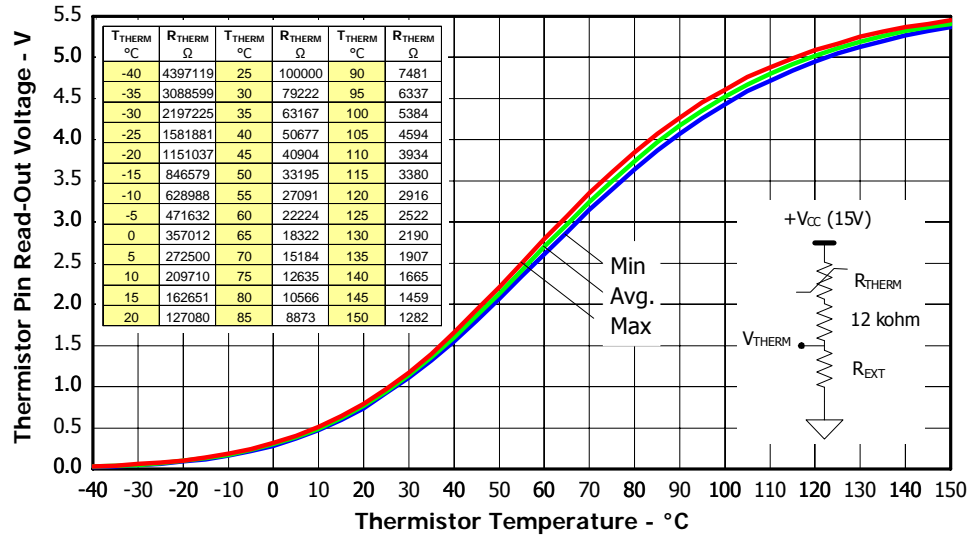

Figure 9. Thermistor Readout vs. Temperature (7.5kOhm pull-up resistor, 5V) and Nominal Thermistor Resistance values vs. Temperature Table.
3. Value of the boot-strap capacitors depends upon the switching frequency. Their selection should be made based on IR design tip DN 98-2a, application note AN-1044 or Figure 9. Bootstrap capacitor value must be selected to limit the power dissipation of the internal resistor in series with the  $V_{CC}$ . (see maximum ratings Table on page 3).